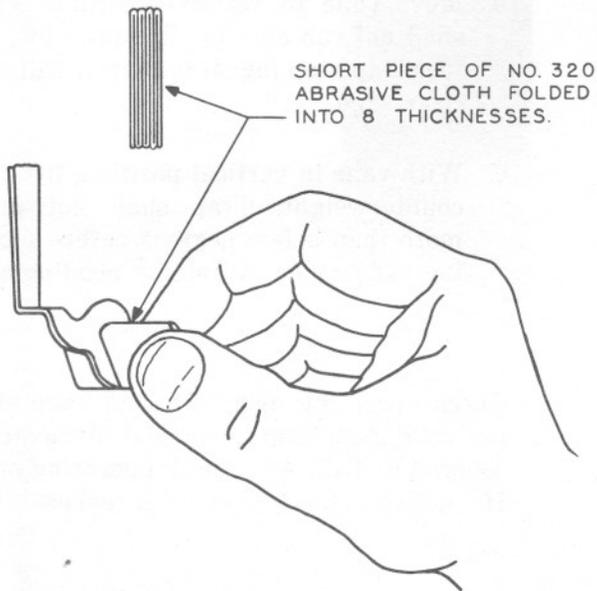

Fig. 9 — Polishing of Fork Slot
- Surfaces of fork slot shall be smooth. If bearing surfaces of fork are so rough that they cannot readily be made smooth, replace relay; otherwise smooth rough spots using No. 320 or finer abrasive cloth folded as shown in Fig. 9.